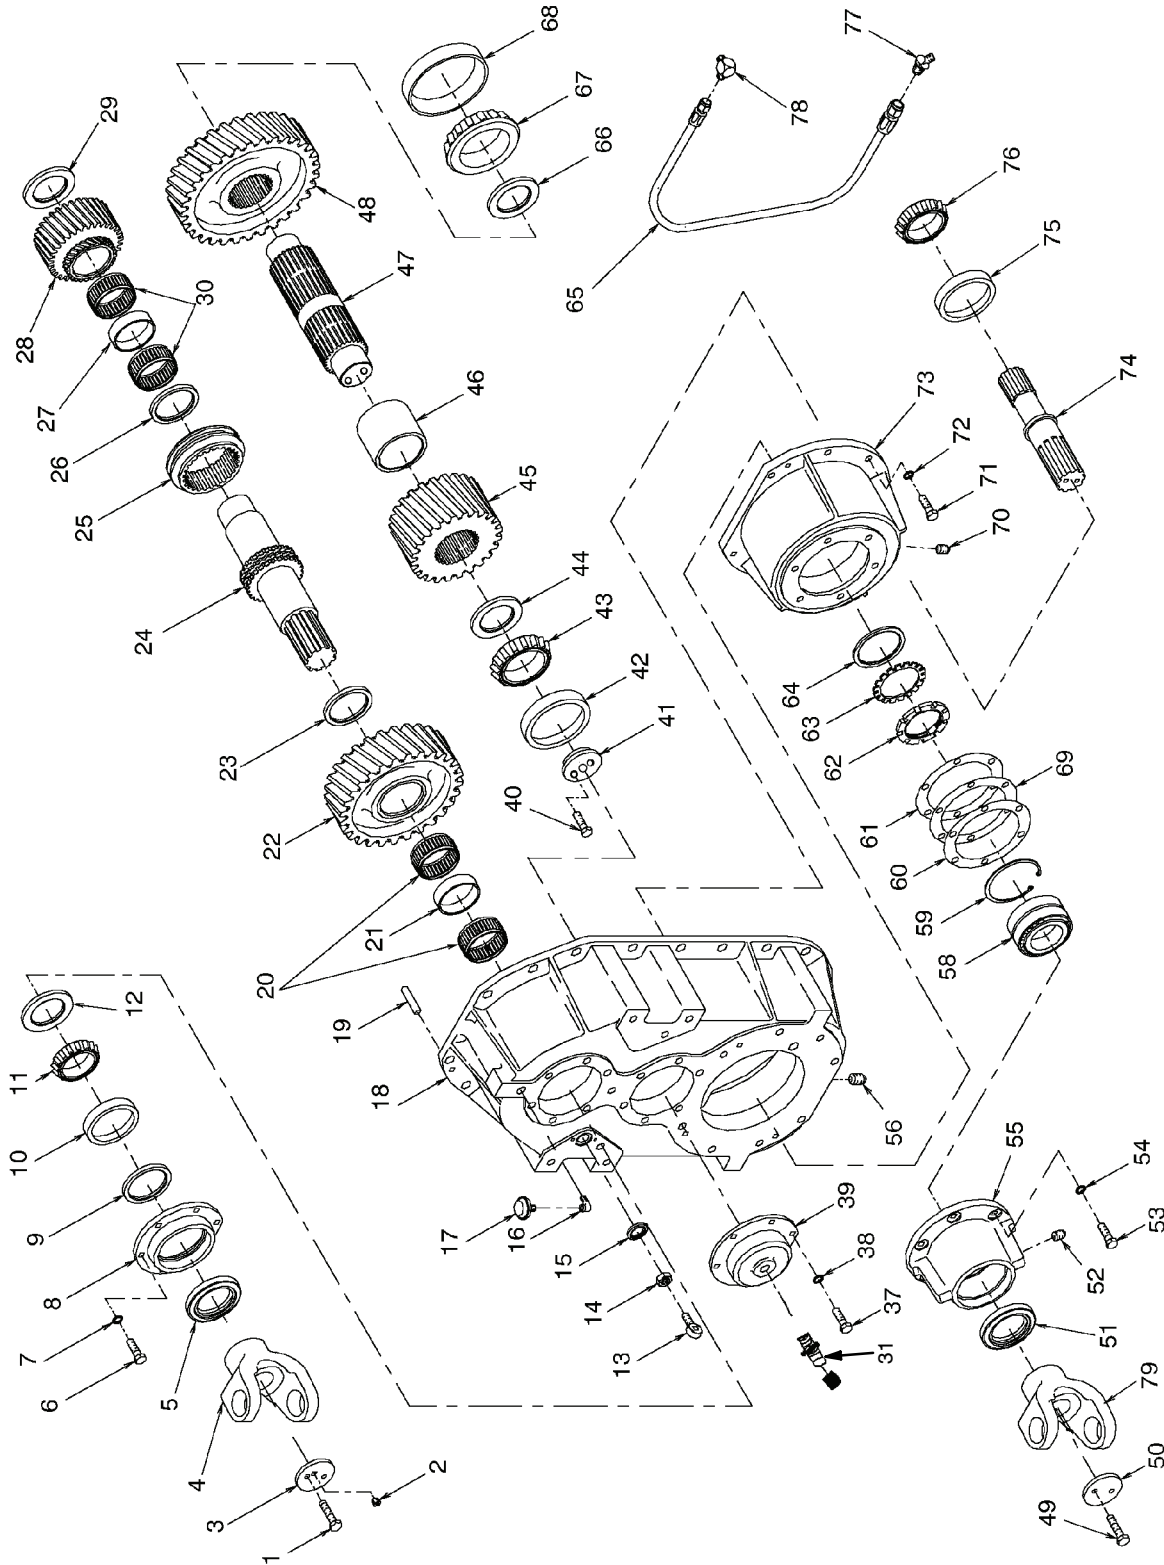
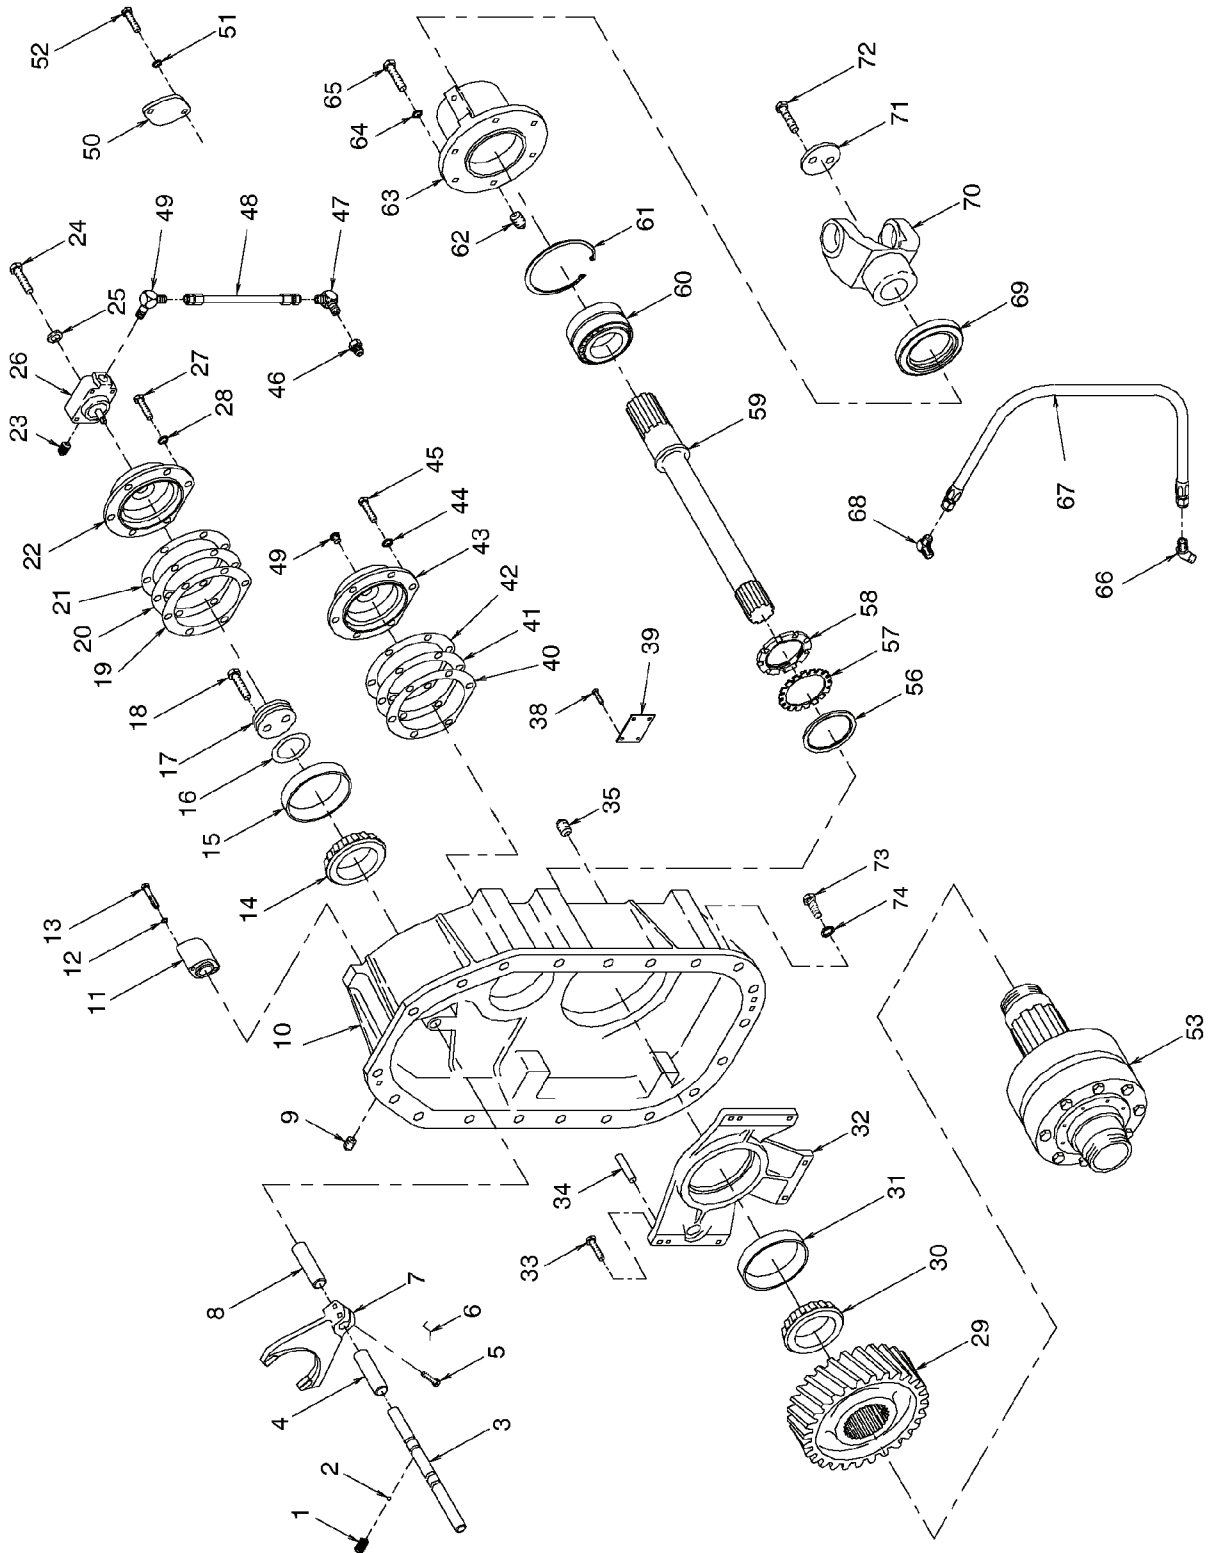

Figure 2. Transfer Case Assembly.
Figure 3. Transfer Case Assembly.
Legend for Figure 2.
Legend for Figure 3.
- (1) Position transfer case in maintenance stand, with front housing (Figure 2, Item 18) facing up.
- (2) Remove two capscrews (Figure 2, Item 1), retainer washer (3) from upper shaft (24).
- (3) Using a puller, remove yoke (Figure 2, Item 4) from upper shaft (24).
- (4) Remove two capscrews (Figure 2, Item 49), lock plate (50) from shaft (74).
- (5) Using a puller, remove yoke (Figure 2, Item 79) from shaft (74).
- (6) Tag and disconnect hose (figure 2, Item 65) from adapters (77 and 78).
- (7) Remove six capscrews (Figure 2, Item 53), lockwashers (54), bearing cup (55), three shims (60, 69 and 61), and lower output shaft assembly from differential assembly (Figure 3, Item 53) and enclosure (Figure 2, Item 73).
- (8) Remove eight capscrews (Figure 2, Item 71), lockwashers (72) from enclosure (73) and front housing (18).
- (9) Install jack bolts in holes on enclosure (Figure 2, Item 73) and tighten alternately to separate enclosure from front housing (18) and dowel pin. Remove enclosure (73).
- (10) Using a suitable lifting device, remove differential assembly (Figure 3, Item 53) from transfer case.
- (11) Remove sending unit (Figure 2, Item 31), from end cap (39).
- (12) Remove six capscrews (Figure 2, Item 37), lockwashers (38), and end cap (39) from front housing (18).
- (13) Remove oil seal (Figure 2, Item 5), six capscrews (6), lockwasher (7) and end cap (8) from front housing (18).
- (14) Loosen jam nut (Figure 2, Item 14) and remove rod end (13) and oil seal (15) from upper shift rod (Figure 3, Item 3) and front housing (Figure 2, Item 18).
- (15) Remove elbow (Figure 2, Item 16), breather (17), plug (56), and adapters (77 and 78) from front housing (18).
- (16) Position transfer case in maintenance stand with rear housing (Figure 3, Item 10) facing up.
- (17) Tag and disconnect hoses (Figure 3, Items 67 and 48) from adapters (66,68,47 and 49).
- (18) Remove outer detent plug (Figure 3, Item 9), spring (1) and ball (2) from rear housing (10).
- (19) Remove two capscrews (Figure 3, Item 13), lockwashers (12) and upper shift cover (11) from rear housing (10).
- (20) Remove two capscrews (Figure 3, Item, 72), lock plate (71) from shaft (59).
- (21) Using a puller, remove yoke (Figure 3, Item 70) from shaft (59).
- (22) Remove six capscrews (Figure 3, Item 65), lockwashers (64), bearing cap (63) and lower rear output shaft assembly from transfer case and rear housing (10).
- (23) Remove six capscrews (Figure 3, Item 45), lockwasher (44), end cap (43), shims (42, 41, and 40) from housing (10).
- (24) Remove two adapters (Figure 3, Items 66 and 68), Plug (35), screw (52), lockwasher (51), declutch opening cover (50) and adapter (47), strainer (46) from rear housing (10).
- (25) Remove adapter (Figure 3, Item 49) and plug (23) from hydraulic pump (26).
- (26) Remove four capscrews (Figure 3, Item 24), lockwashers (25) and hydraulic pump (26) from bearing cover (22).
- (27) Remove six capscrews (Figure 3, Item 27), lockwashers (28), bearing cover (22) and shims (21, 20 and 19) from rear housing (10).
- (28) With rear housing (Figure 3, Item 10) facing up, remove 20 capscrews (Figure 3, Item 73), and washers (Figure 3, Item 74) from front housing (Figure 2, Item 18) and rear housing (Figure 3, Item 10).